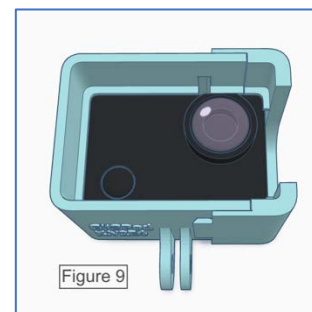

Figure 9 - Camera Installed
4. Properly assembled mount and camera (Figure 9).